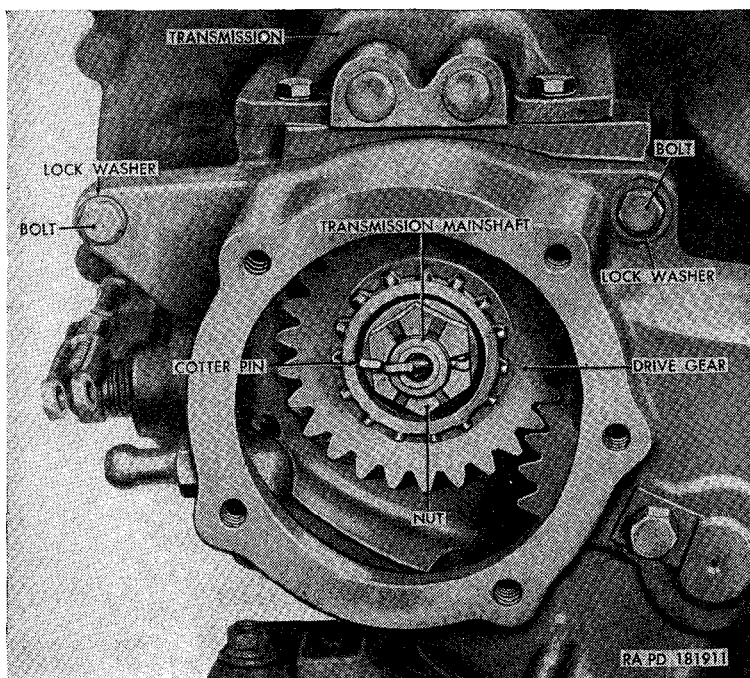

Figure 127. Transfer drive gear installed.
- d. Shift transmission out of neutral and remove the cotter pin, nut (fig. 127), and washer securing the transfer drive gear to the transmission main shaft. Shift transmission back to neutral. Pull the drive gear off the shaft.
- e. While supporting the transfer, remove the four bolts and lockwashers (fig. 127) two at the top, and two at the bottom, securing the transfer to the transmission. Remove a fifth bolt and lockwasher securing the transfer to the transmission from the lower right rear of the transmission flange.
c. Make certain the transfer and transmission mating surfaces are clean and free of old gasket material. Coat a new transfer case-to-transmission gasket with plastic-type gasket cement and position the gasket on the front side of the transfer case. Make certain the transmission main shaft bearing is in place against the transmission rear flange. Position the transfer assembly on the rear of the transmission assembly. Secure the transfer to the transmission with four $\frac{3}{8}$ x $1\frac{1}{8}$ bolts (fig. 127).